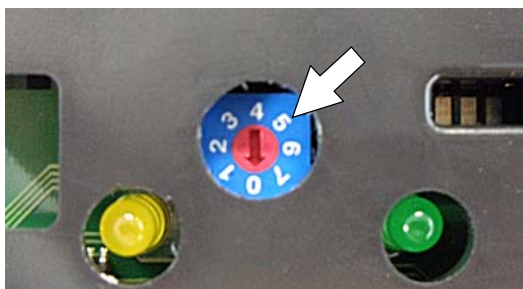

FIG. 80
- Using a small standard screwdriver, turn the dial to the appropriate battery type according to the following chart (Figure 80).